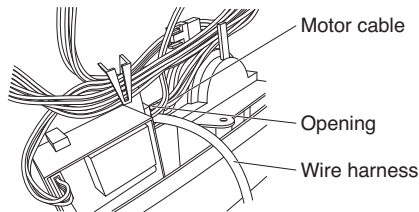

Fig. 4b
- When feeding the wire harness through the opening, be careful of the motor cable and be sure to feed the wire harness and motor cable together through the opening. (Fig. 4b)